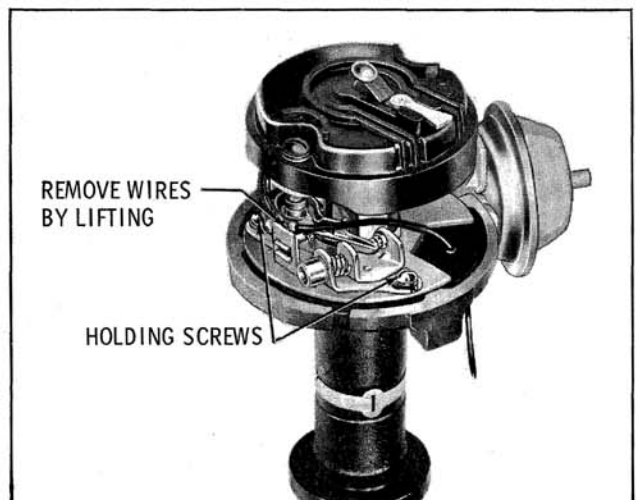

Fig. 13-66 Removing Contact Point Set
2. Loosen the two attaching screws which hold the base of contact set, turn and lift out the assembly. (Fig. 13-66)